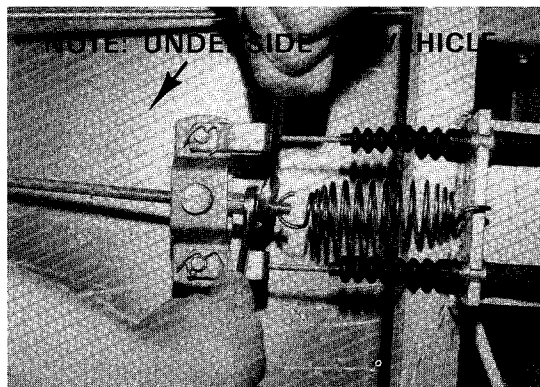

Figure 13-5
3. To adjust pedal position, loosen jam nuts on brake equalizer rod to provide slack in brake cables (Figure 13-5).
6. To adjust brake cables, turn jam nut on brake equalizer rod until brake pedal free play is between ¾" to 1" (Figure 13-5).
8. Tighten jam nuts on brake equalizer rod using two wrenches (Figure 13-5).